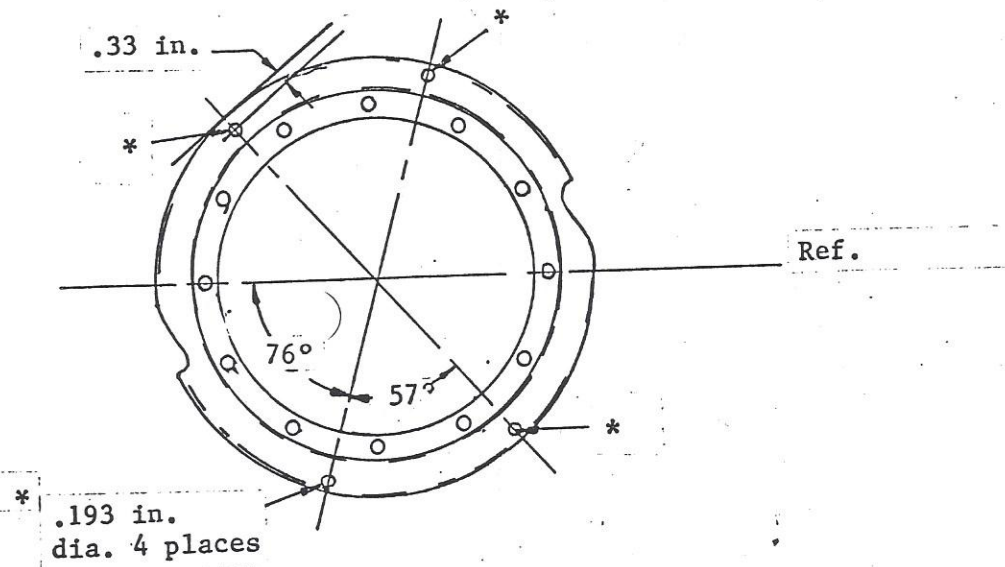

Figure 6. Drain Hole Locations.
6. Locate and drill four (4) .193 in. dia. drain holes in the backplate as shown on figure 6 and as instructed in paragraphs 7, 8 and 9.
7. Place the backplate on a flat surface as shown on figure 6 and place a straight edge across the centers of the first hole above the left propeller cutout and the first hole below the right propeller cutout. Mark a line across these points for reference.
8. Using a protractor, mark a line at 76° from reference line, then a line at 57° from the 76° line (See figure 6).
9. Drill four (4) .193 in. dia. holes .33 inches in from outer flange as shown on figure 6. Deburr holes.